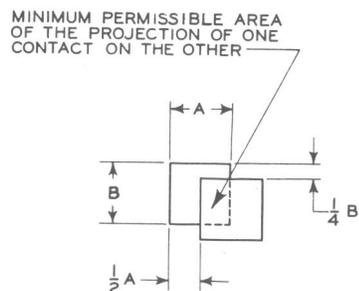

Fig. 2—Alignment of Contacts—Plan View of Contacting Surfaces
2.05 *Contact Alignment:* The contact alignment of any pair of mating contacts shall be such that neither of the contacts extends beyond the other by more than 1/2 of its length in one direction and 1/4 of its length in the other direction as shown in Fig. 2.